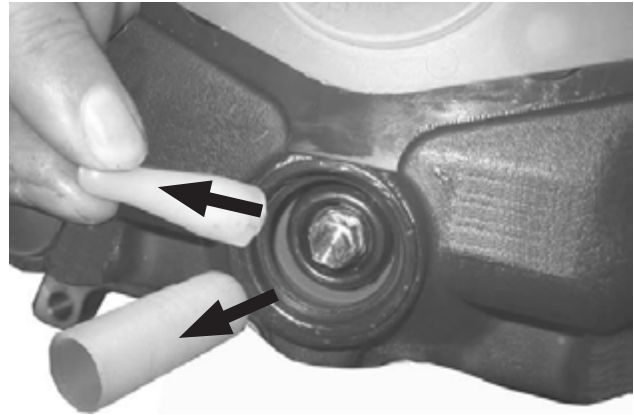

Figure 85: *Removing mounting bushing and cap*
11. **Remove** the mounting bushing and the mounting cap (Figure 85).